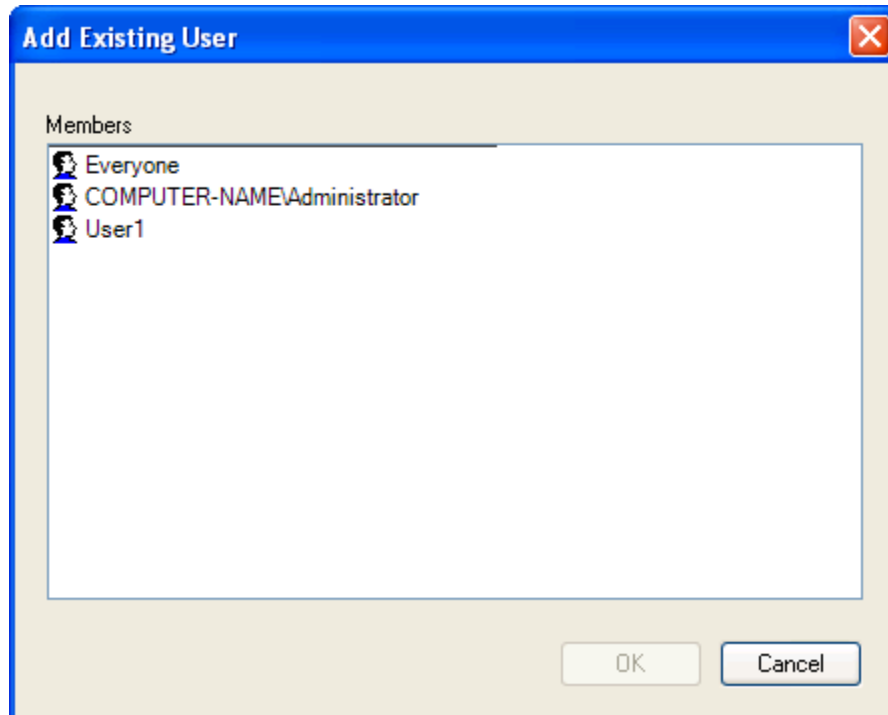

Figure 93 - Add Existing User Window
1. Click on the **Add** button. The **Add Existing User** window (Figure 93) appears.